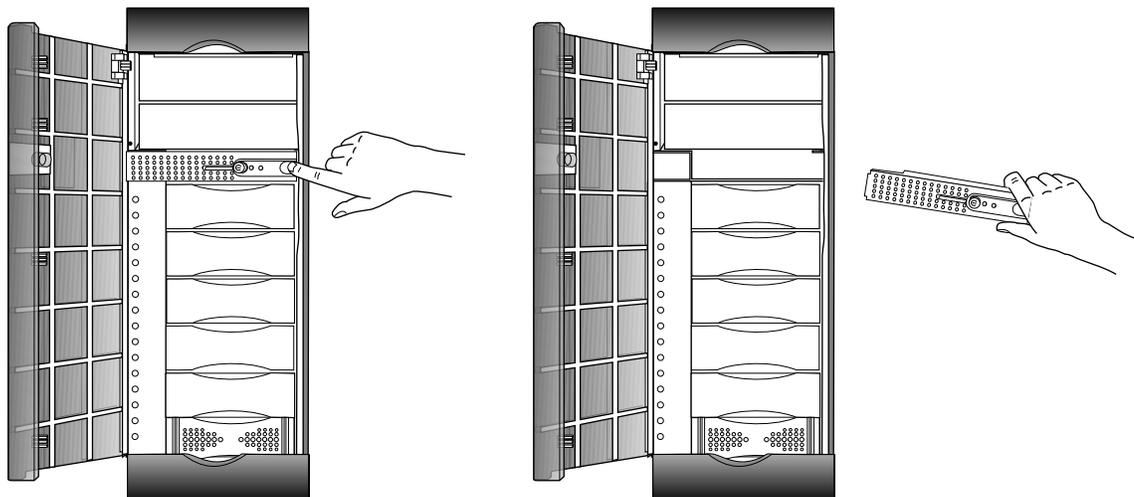

Figure 9-5 Removing the Front Bezel Crossbar
- With your index finger, press against the catch on the inside of the recess in the crossbar, on the outside (right or top) of the recess. This recess is where the door lock fits. See Figure 9-5.